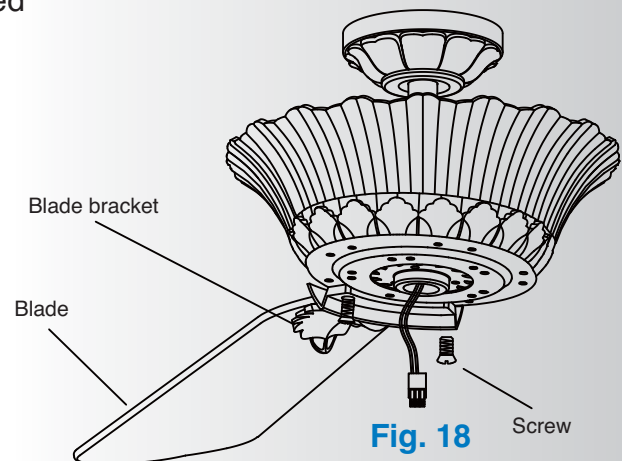

Fig. 18
Step 3. Attach each completed blade assembly to the face of the motor using the “pre-installed” mounting screws in each blade bracket. (Fig. 18) Make sure each mounting screw is securely tightened.